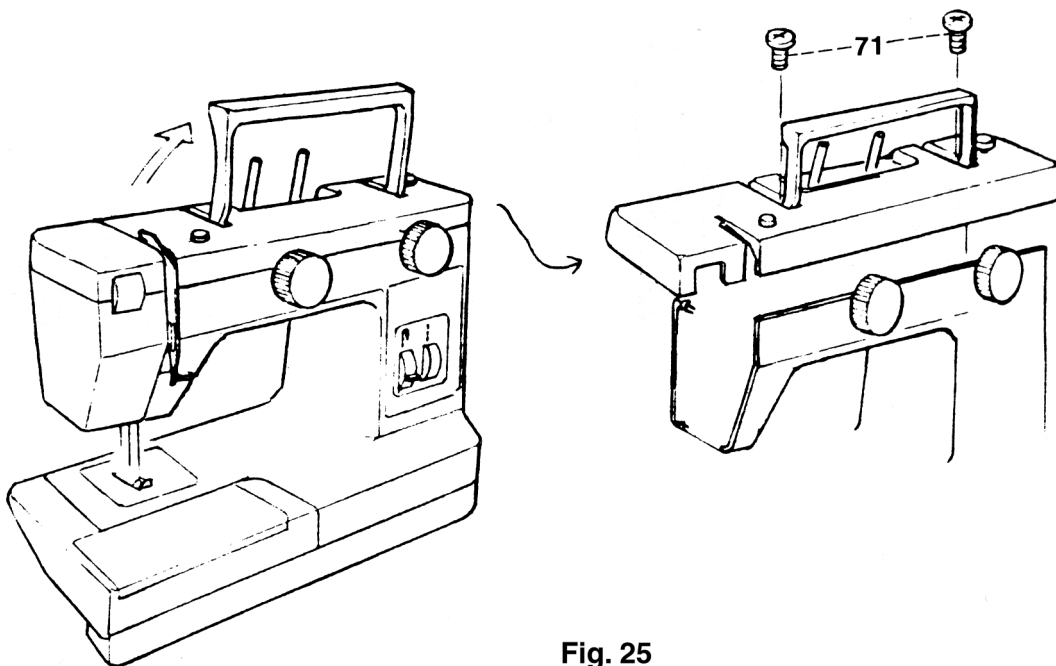

Fig. 25
- Fold up the carrying handle (fig. 25).